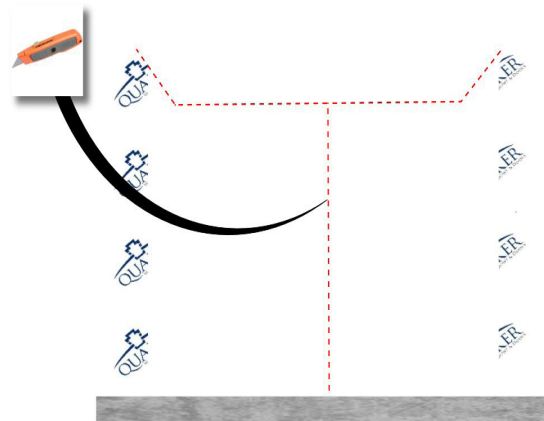

Fig. 6
4. Cut the weather-resistant barrier (WRB) in a "1" pattern. (Fig. 6)
5. Cut the top corners of the WRB at 135° and 9" long. (Fig. 6)